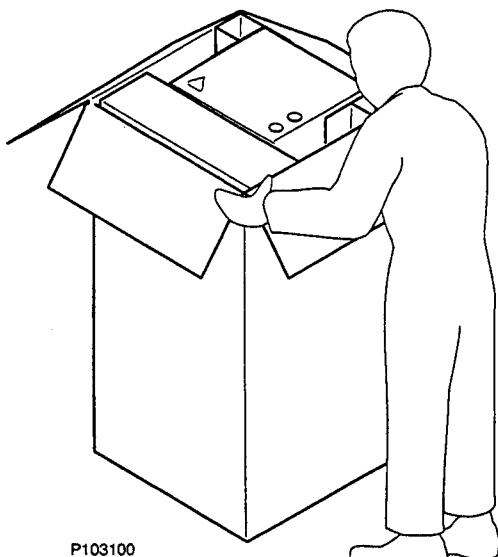

FIGURE 1: OPENING SHIPPING CARTON
- 1) Remove strapping from carton. Remove staples and open top flaps (see Figure 1).